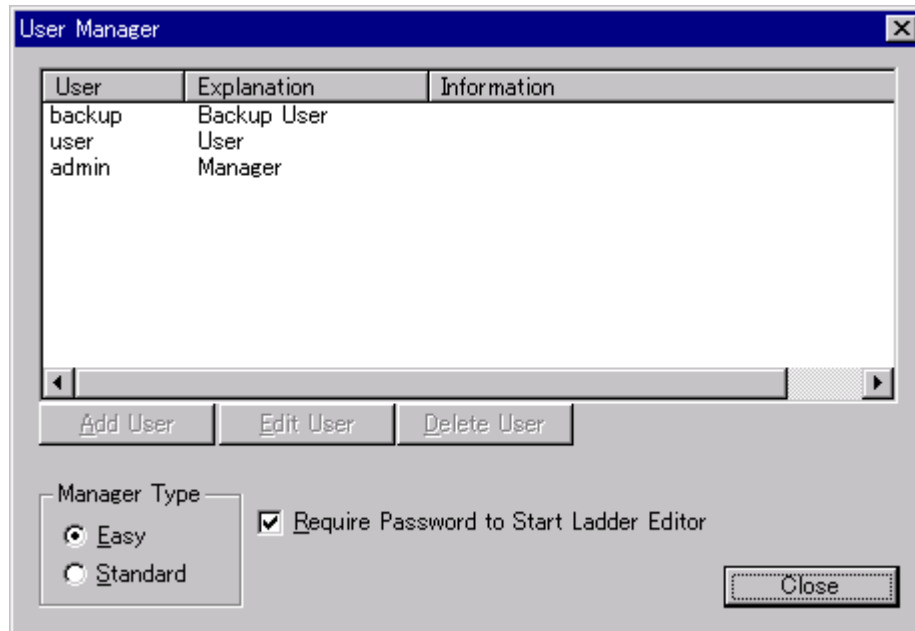

Fig. 25-1 [User Manager] Dialog Box
- ① Select [Option] – [Access Control] – [User Manager], and the [User Manager] dialog box appears as shown in Fig. 25-1.